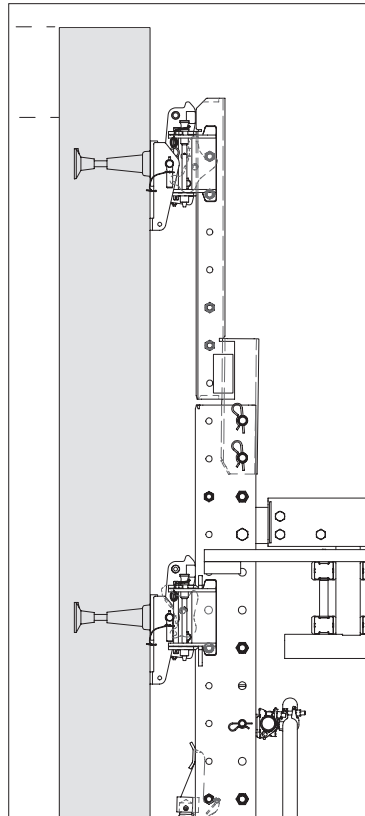

Fig. D6.15
4. Continue climbing until the climbing rail extension (7) threads into the climbing shoe. (Fig. D6.15)